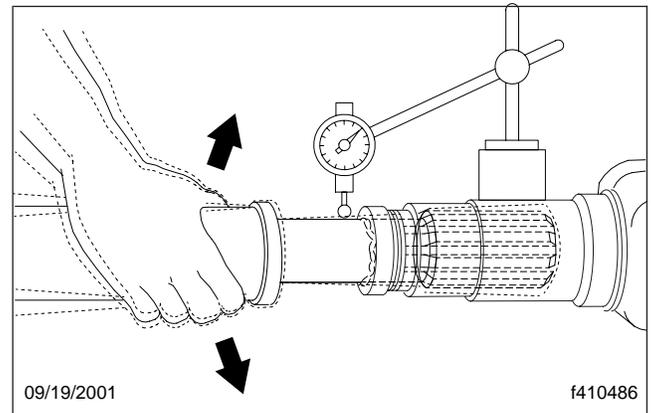

Fig. 2, Checking for Radial Looseness of the Slip Yoke Spline
3. Examine the slip yoke spline for excessive radial movement. See Fig. 2. If excessive radial looseness exists between the slip yoke and the tube shaft, replace the slip yoke and the tube shaft. For instructions, see **Group 41** of the *S2 Chassis Workshop Manual*.